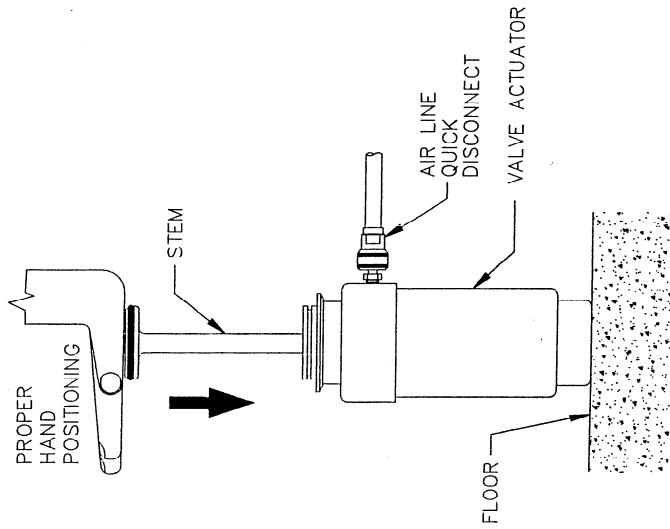

FIGURE 1
- B) PLACE STEM IN THE VALVE ACTUATOR AS SHOWN IN FIGURE 1.
- C) APPLY PRESSURE TO THE TOP OF THE STEM AS SHOWN IN FIGURE 1.
CAUTION: USE THE FLAT OF THE HAND AS SHOWN IN FIGURE 1. FAILURE TO FOLLOW THIS MAY RESULT IN PERSONAL INJURY.